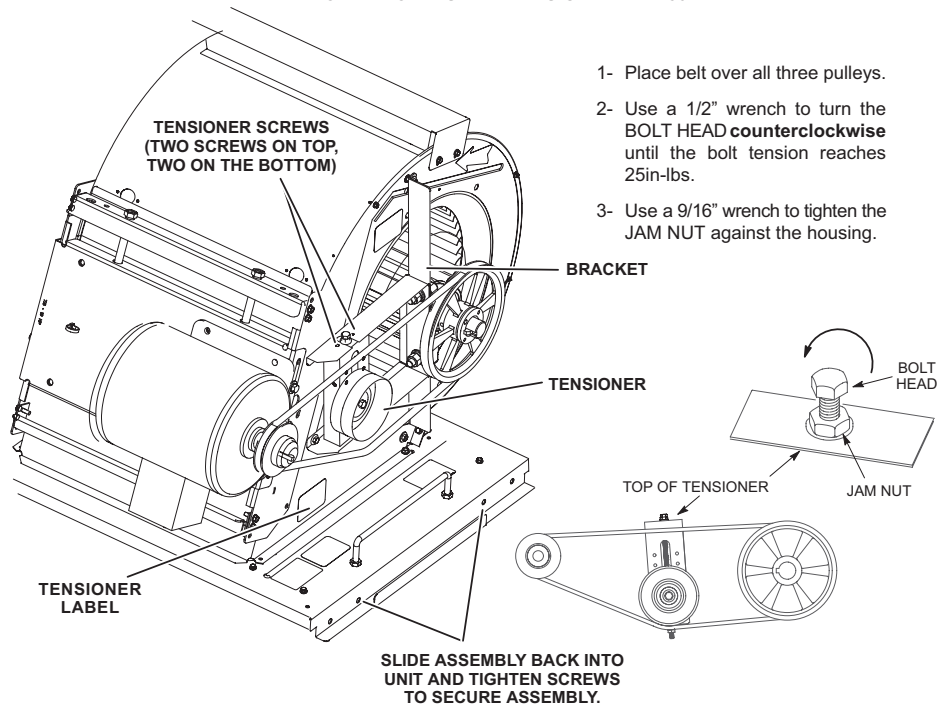
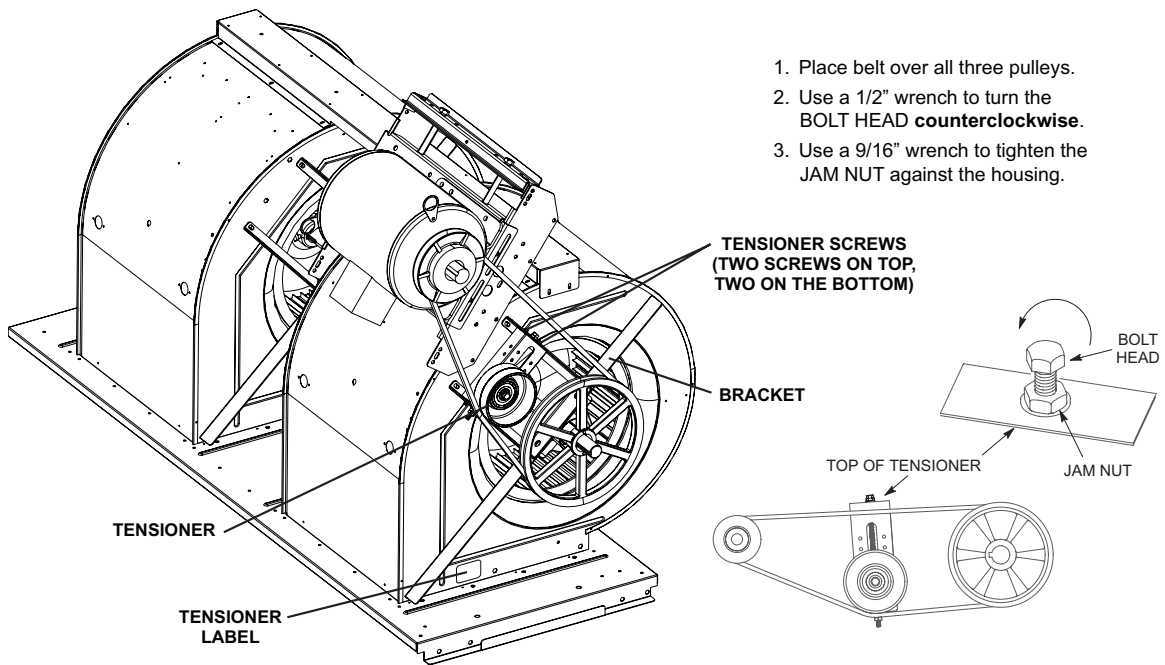

FIGURE 2
FIGURE 3
- 5 - 24B80 - Remove front and back brackets. Install two kit brackets. See FIGURE 2.
- 6 - 38C61 - Remove main bracket. Install kit bracket. See FIGURE 3.
- 7 - Install tensioner provided in kit. See FIGURE 2 or FIGURE 3.
- 8 - Tighten belt tension as shown in FIGURE 2 or FIGURE 3.
- 10 - 24B80 & 38C61 - Replace tensioner sticker with sticker provided in this kit. See FIGURE 2 or FIGURE 3 for sticker location.